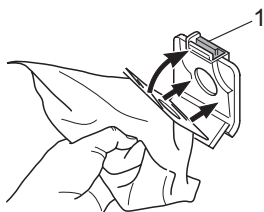

Fig. 22
7. Press the locking clip (Fig. 22/1) back and insert the new dust filter bag into the dust bag holder (Fig. 22).